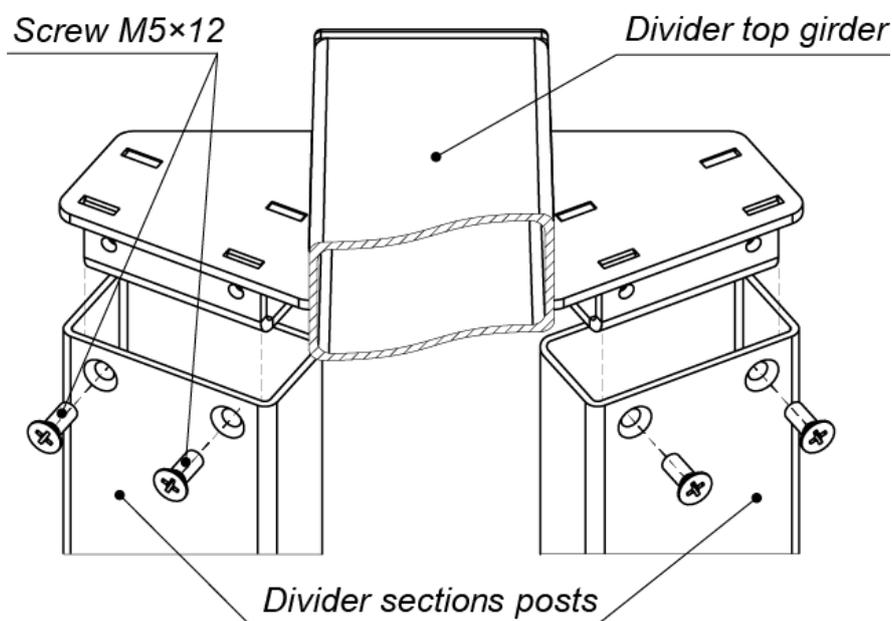

Figure 12. Installation of the top girder of the divider
7. Unpack divider sections (5) and top girder (8) (box №6).
- Erect both divider sections (5) on the mounting surface so that the holes of supporting flanges coincide with the positioning of anchor bolts.
9. Install the divider top girder in divider sections posts and fix them with the screws M5×12 (8 pcs.), that are included in the installation kit (Fig. 12).